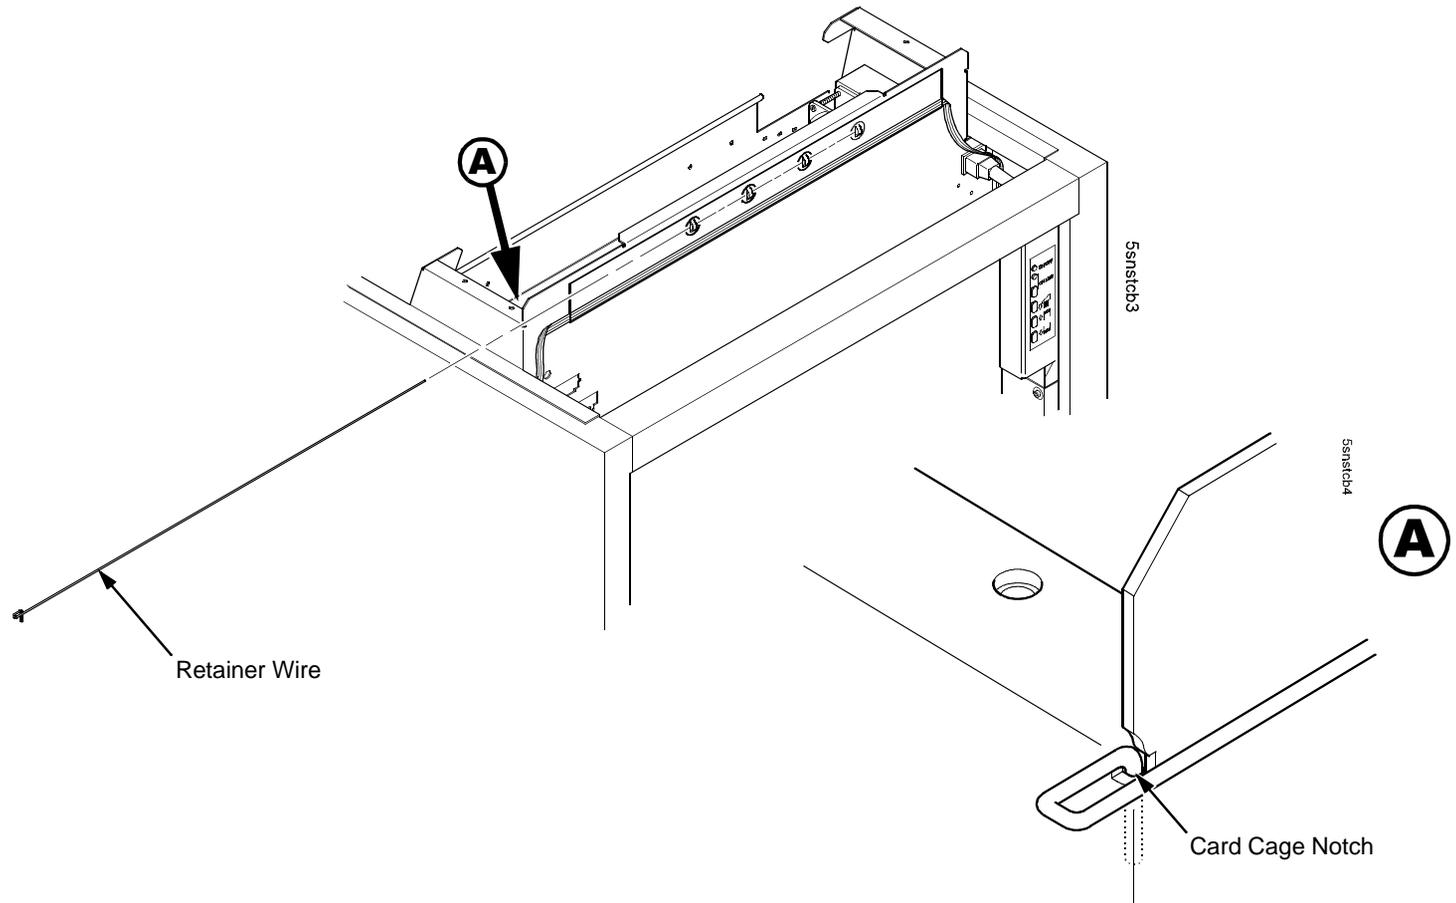

Figure 88. The Cable Routing Guide Retainer on Printers Using the CMX or CFX Controller Board
13. Slide the retainer wire over the cable routing guide and through the four chain hooks. (Figure 88.)
14. Insert the bent end of the retainer wire into the card cage notch. (Figure 88, detail.)